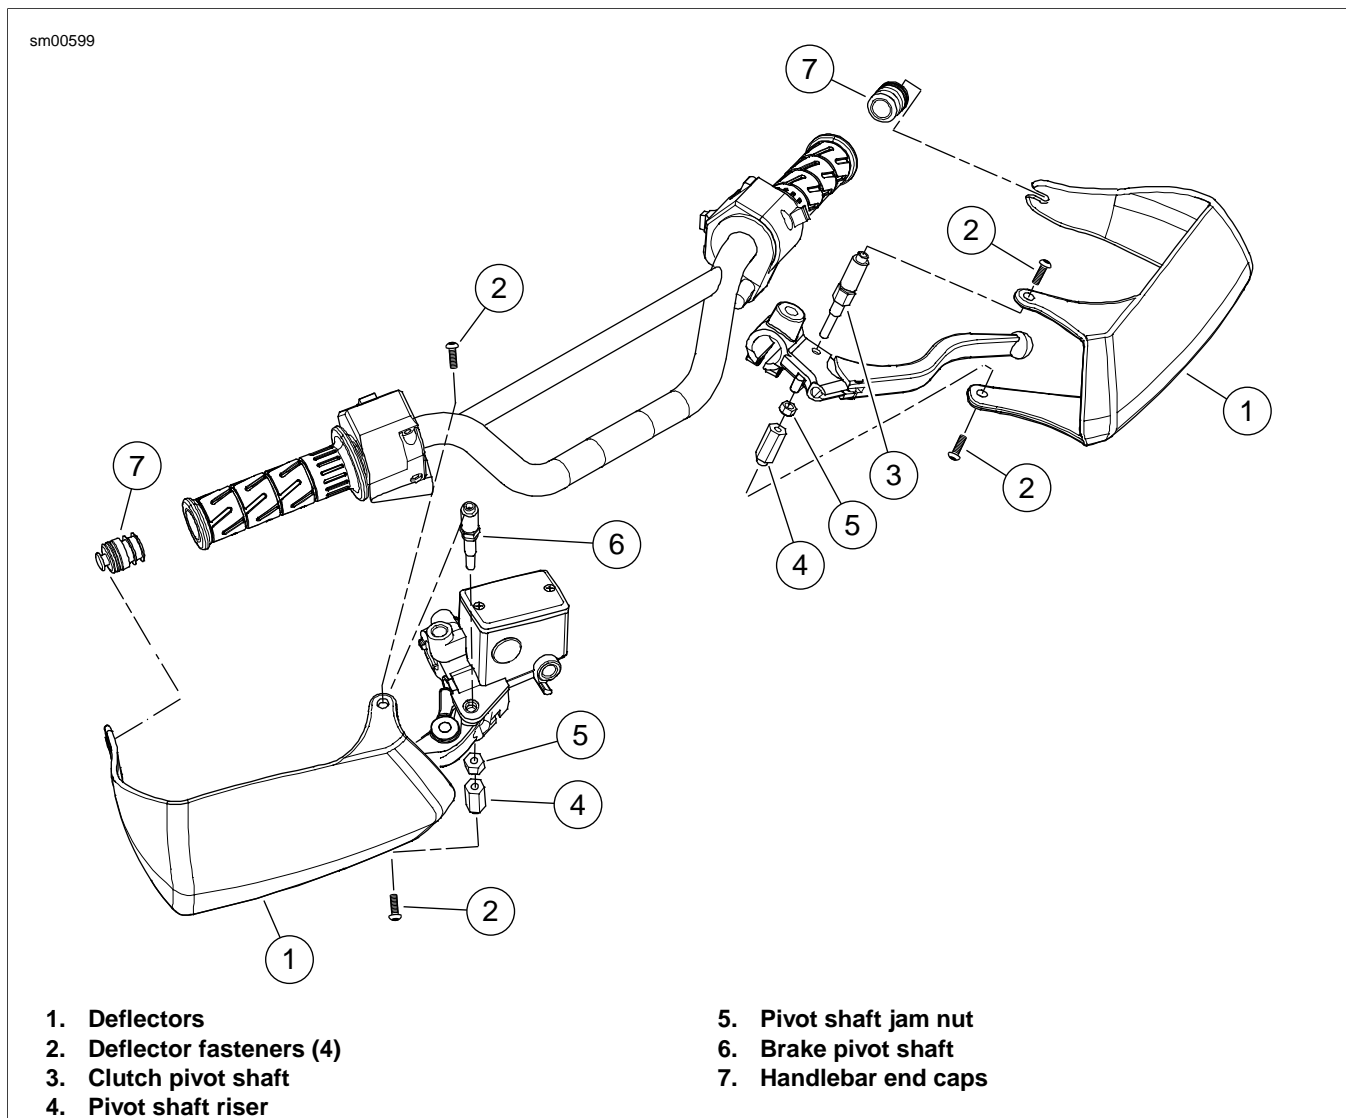

Figure 2-146. Deflectors: XB9SX, XB12X and XB12XT Models
1. See Figure 2-146. Remove fasteners (2) from clutch and brake pivot shafts (3, 6) and pivot shaft risers (4).
2. Unsnap deflectors (1) from handlebar end caps (7).
3. Lift deflectors off of the pivot shafts (3, 6) and pivot shaft risers (4).
4. Loosen pivot shaft riser (4) and jam nut (5) and remove from both pivot shafts (3, 6).